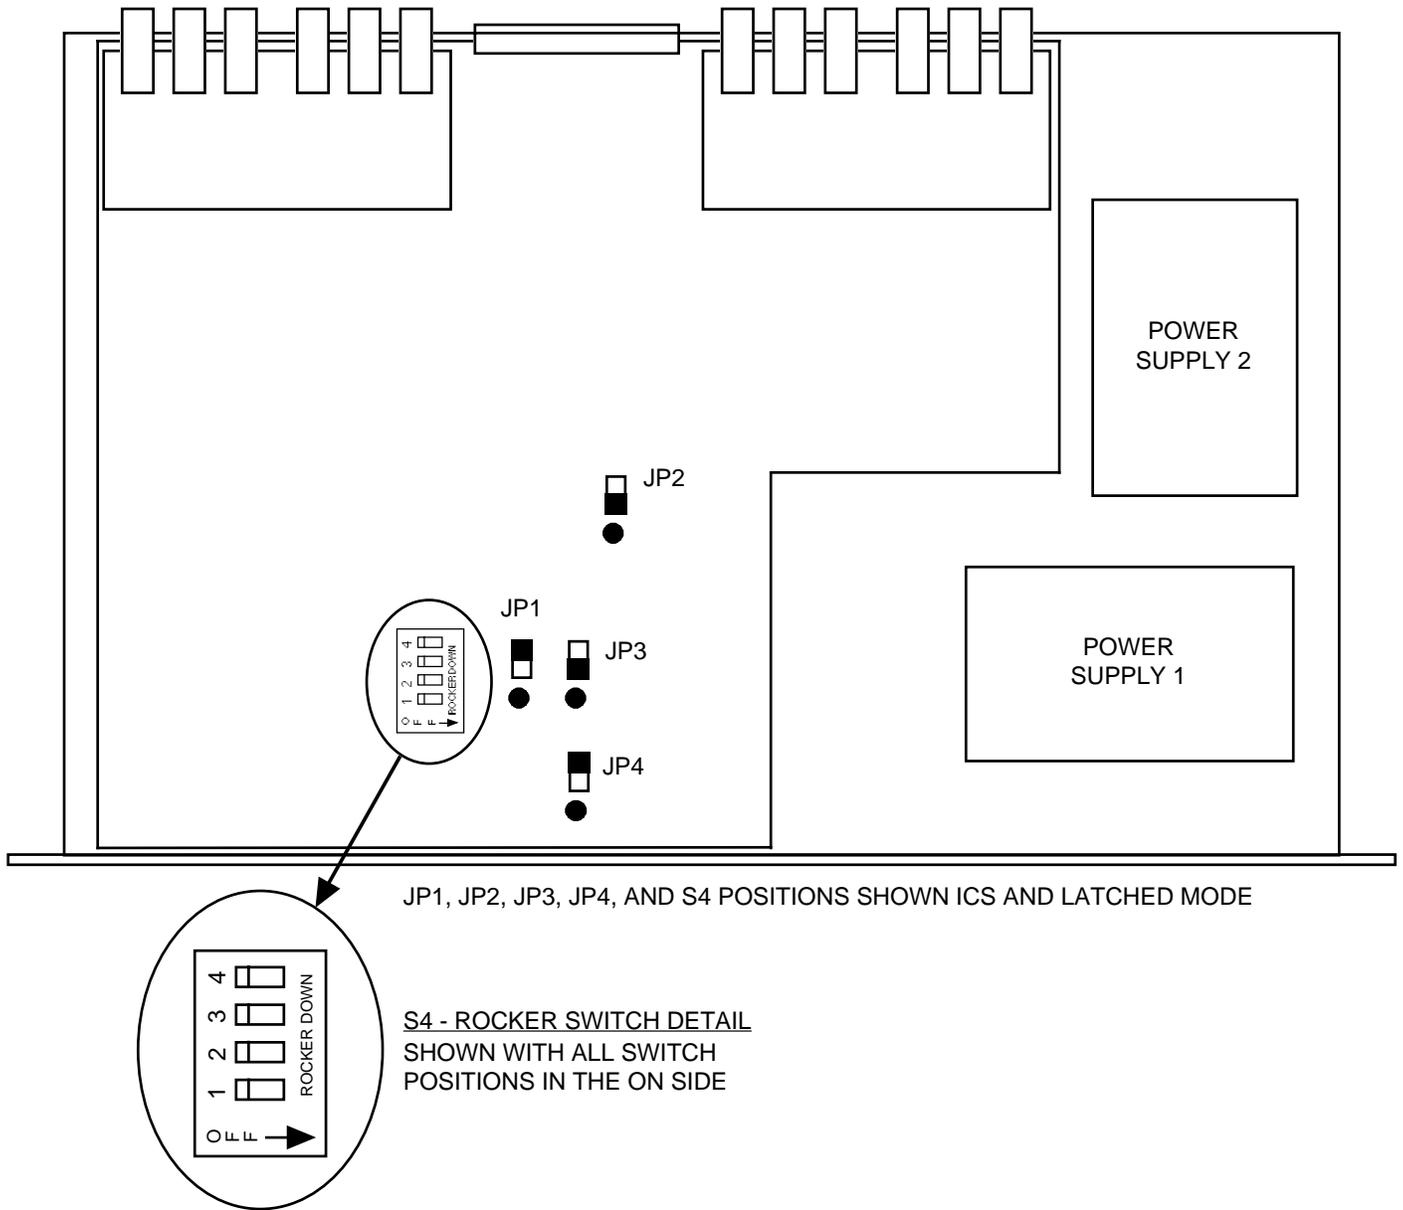

FIGURE 2.1 1582-22L2 RF Switch Assembly
1. Set the on board controls as desired (see Sections 2.3.1 and 2.5, and Figure 2.1).